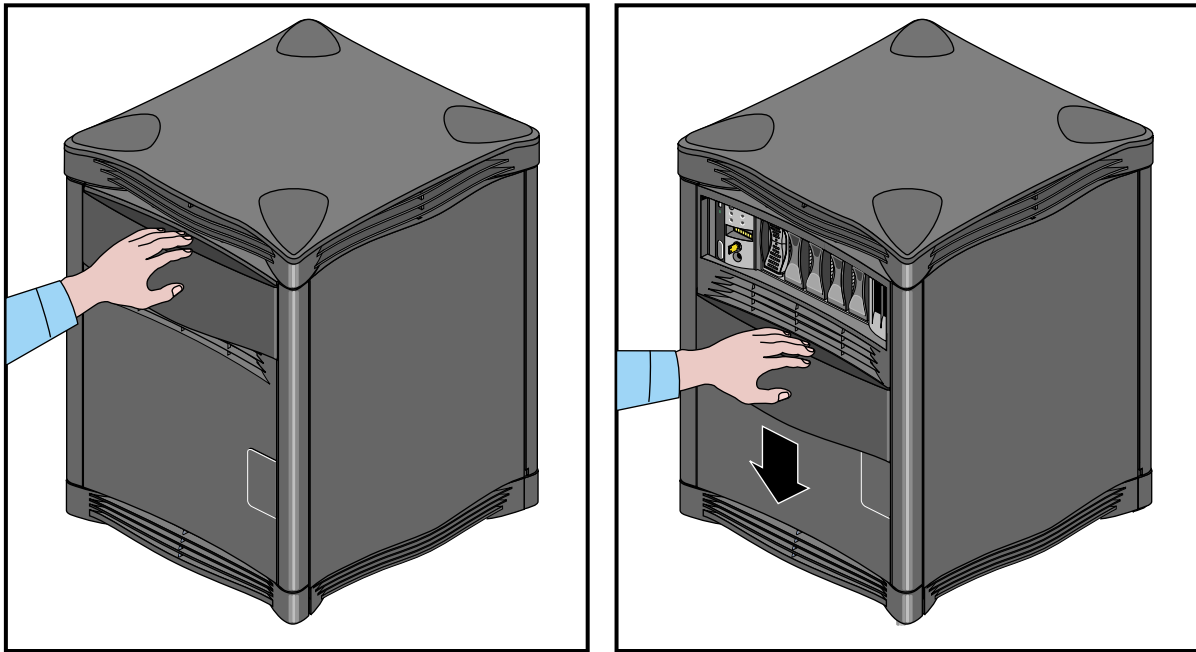

Figure 3-1 Opening and Closing the Sliding Front Panel
2. Slide it downward until it locks in position. You should have clear access to the drives and the MSC interface panel (see Figure 3-1).